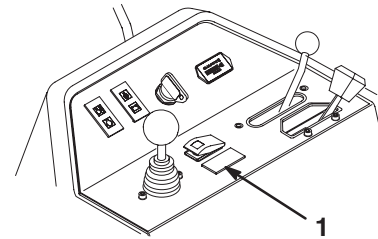

Figure 5
3. Insert the hole plug into the vacant control panel hole (Fig. 5).